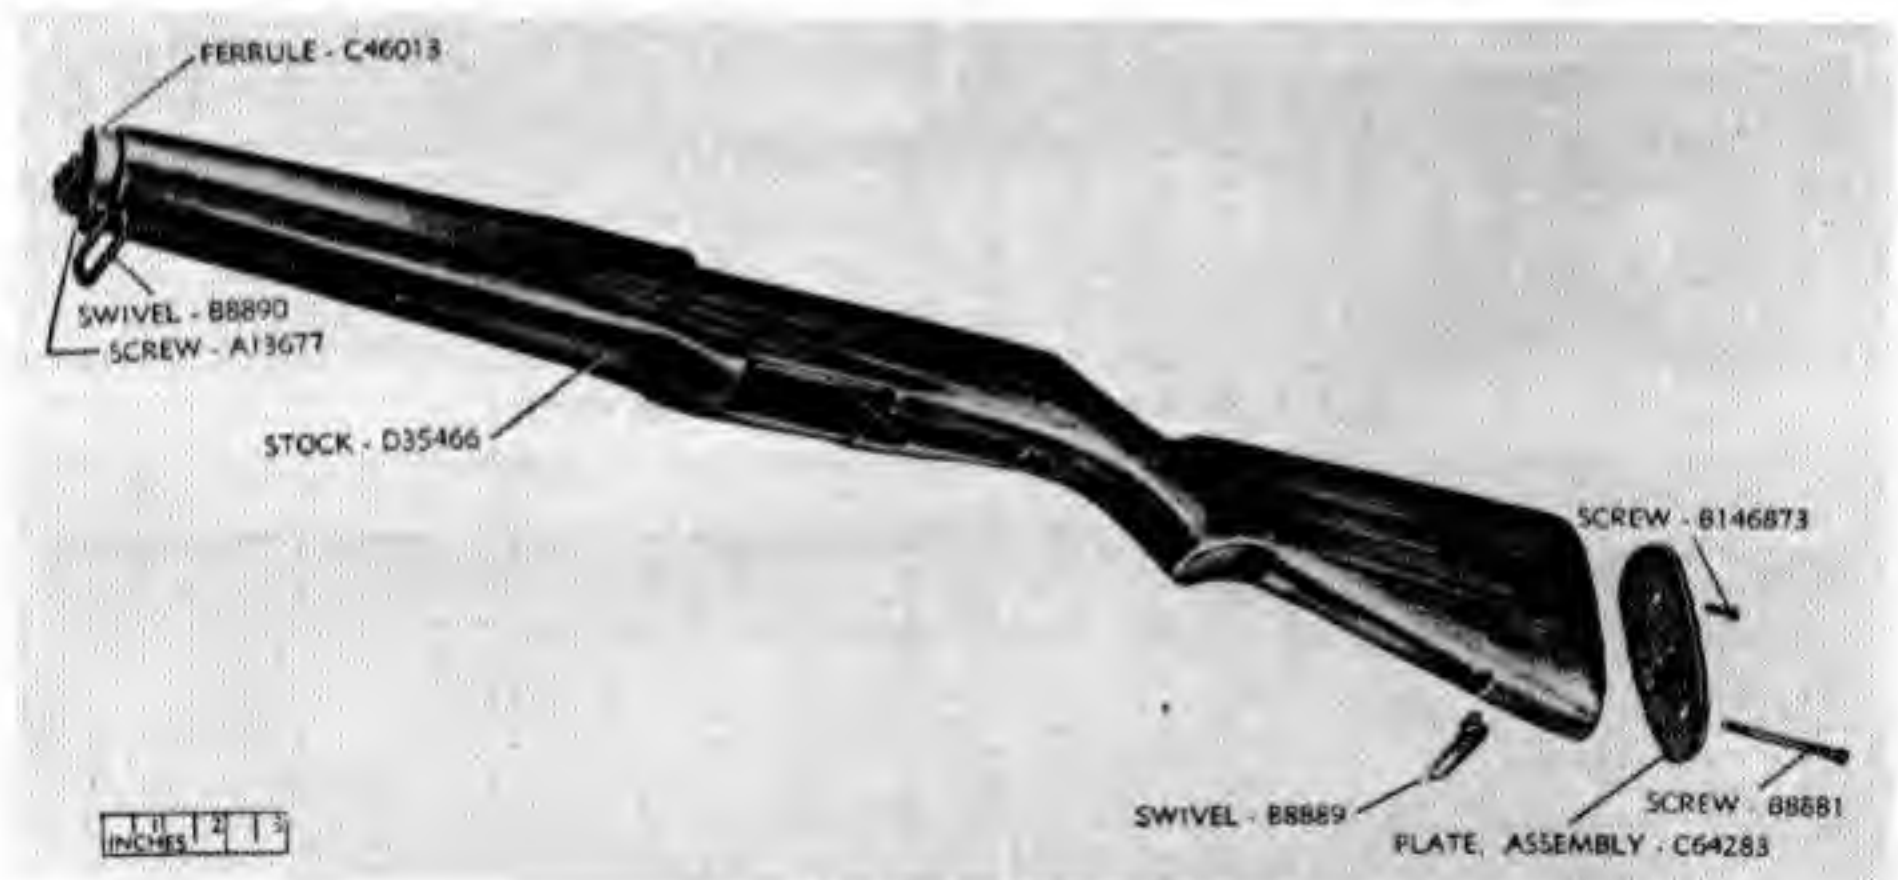

Fig. 158. Stock group parts.
90. Stock ferrules: the inside of stock ferrules (Fig. 158) are ribbed to insure firm grip on the wood. Do not remove ferrules unless they are unserviceable, as this will strip the mating ribs on the stock.